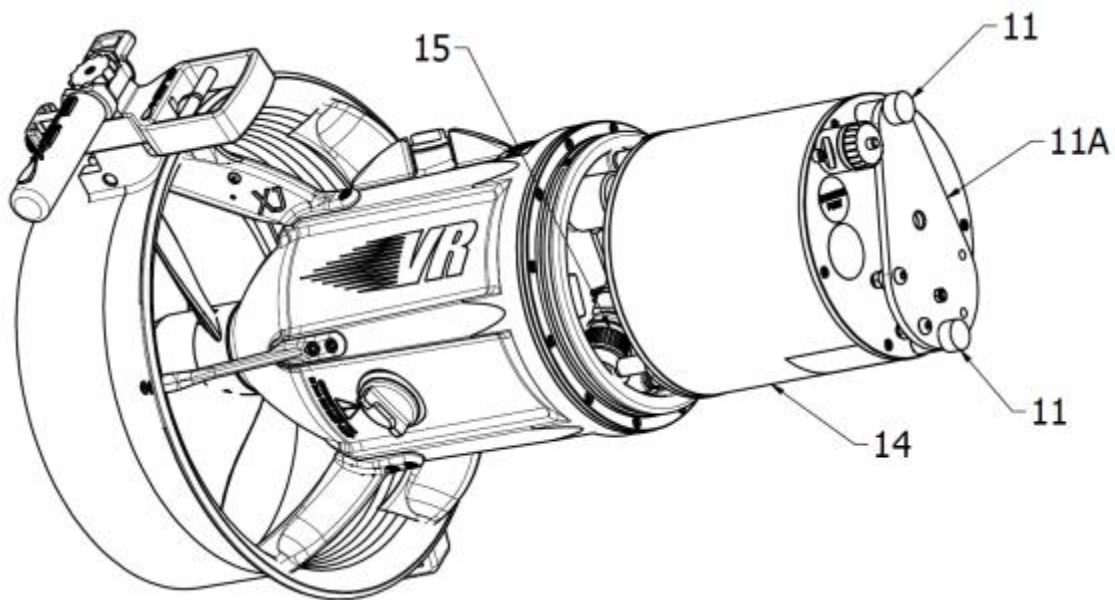
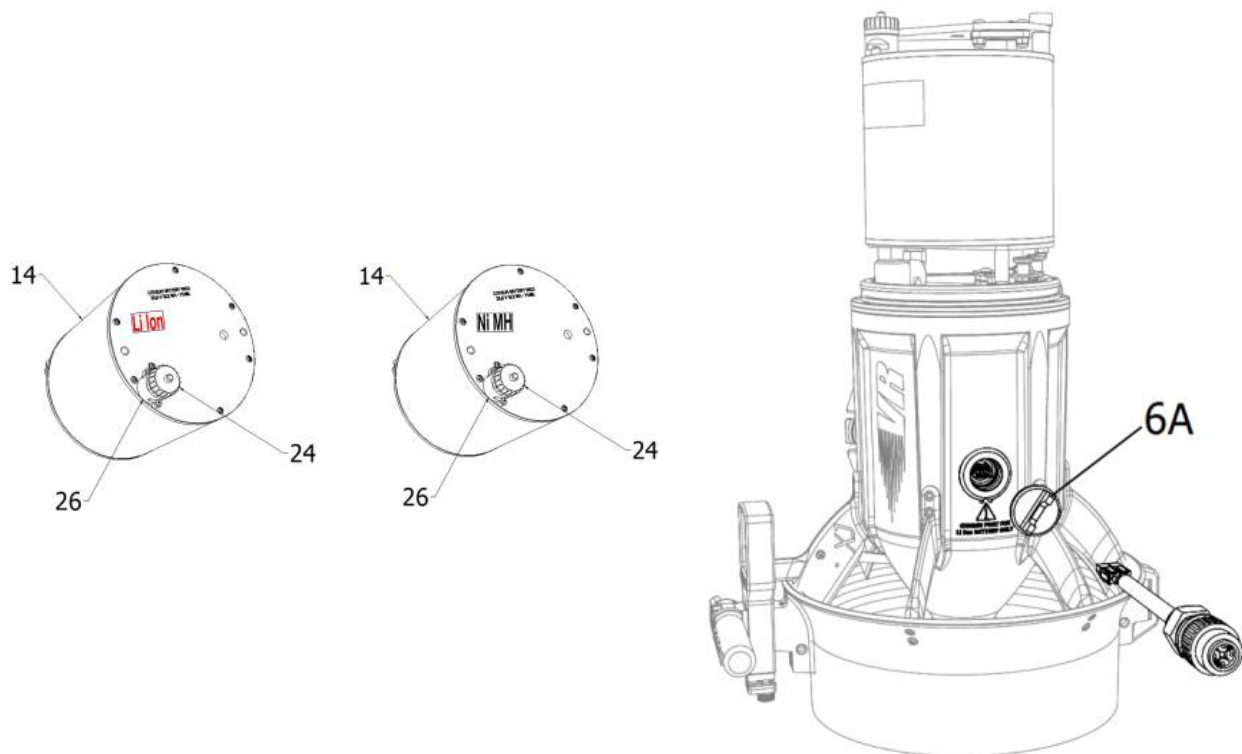

Fig.3
Fig.4
THE BATTERY SHOULD BE RECHARGED ONLY THROUGH THE CONNECTOR (26 - Fig.4), YOU MUST RECHARGE THE BATTERY WHEN IT IS CONNECTED TO THE ENGINE: THERE ARE RISK OF SERIOUS DAMAGE OR DEATH.
To recharge the battery, remove the battery (14) from the Scooter (fig. 3), put it in a safe place away from people and flammable objects, unscrew the cap of the charging connector (24) (fig. 4), connect the socket battery charger power supply to the mains and connect the charging connector (26) to the battery charger (see Battery charger user manual). At the end of charging, disconnect the battery charger and screw the cap (24) of the connector (26) back on. Insert the battery into the scooter only if you intend to use it.